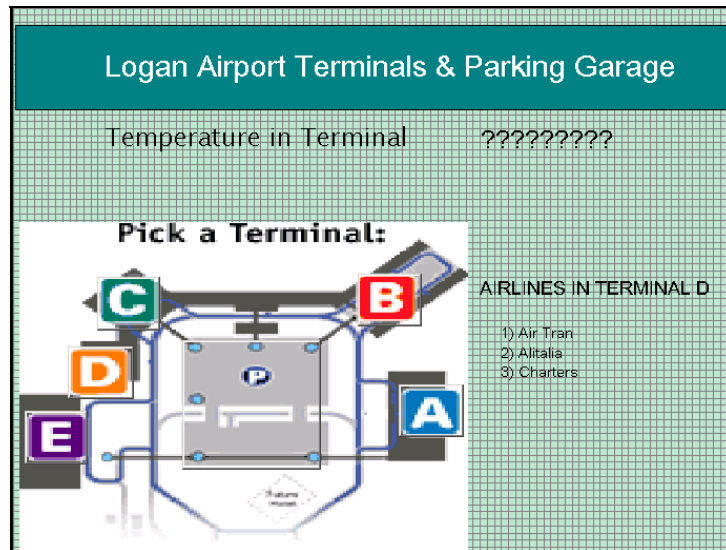

Figure 5.29
- 20 Group these text fields just like you did in step 10. **Layer 4** should look like **Figure 5.29** when complete.